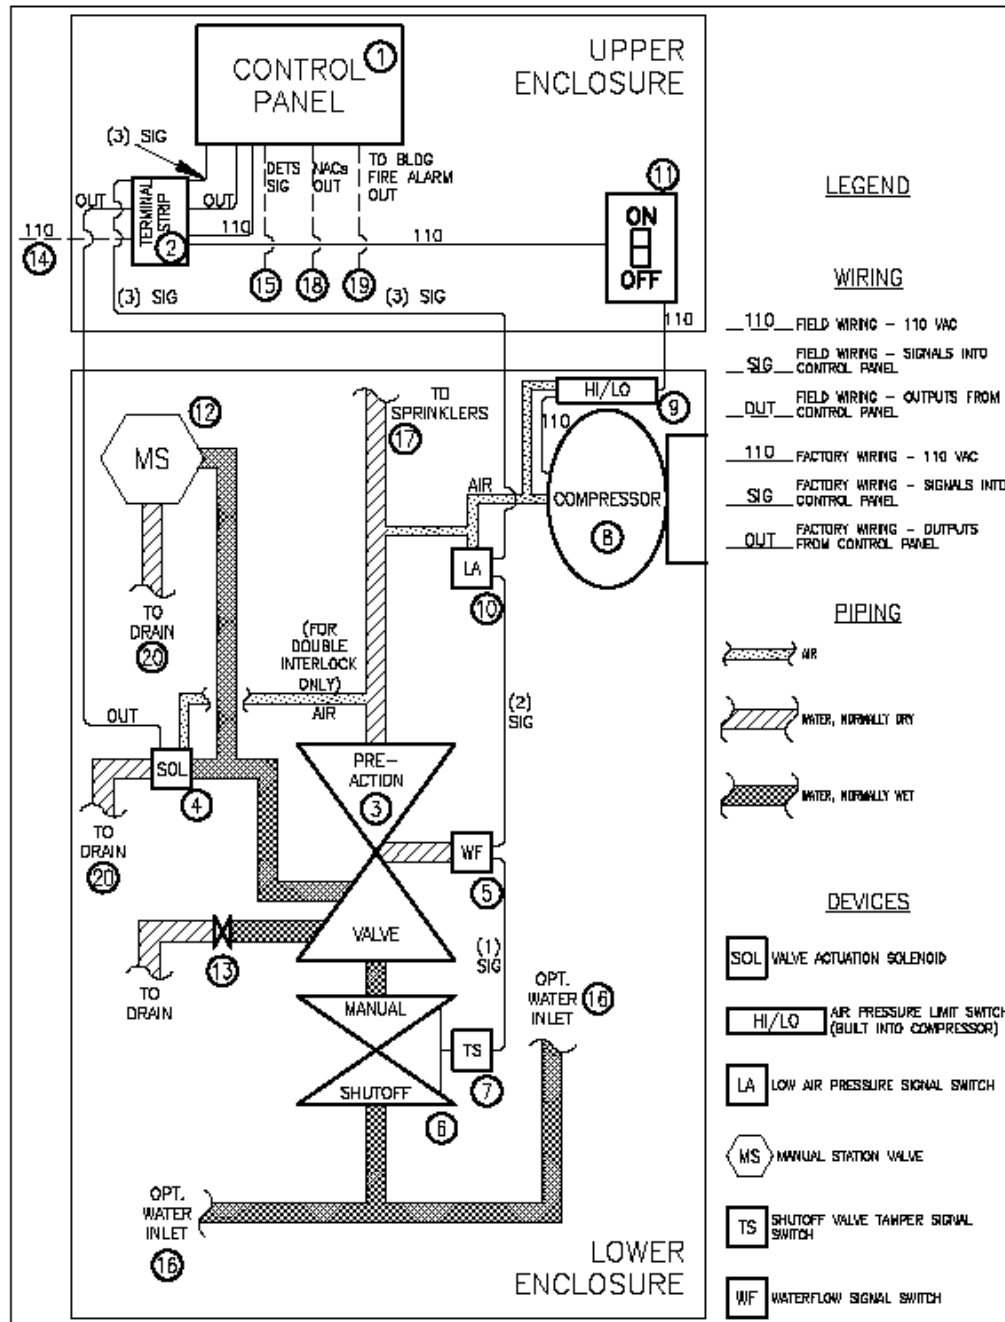

Figure 3 – Diagram - Functional Description
1.3. Functional Description. Refer to Figure 3 on page 4.